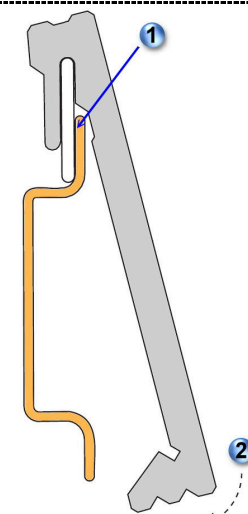

Figure 2.5.4
3. Insert the top of the DIN-Rail into the top slots on the DIN-Rail mounting plate and the DIN-Rail mounting plate will snap into place. (Figure 2.5.4)